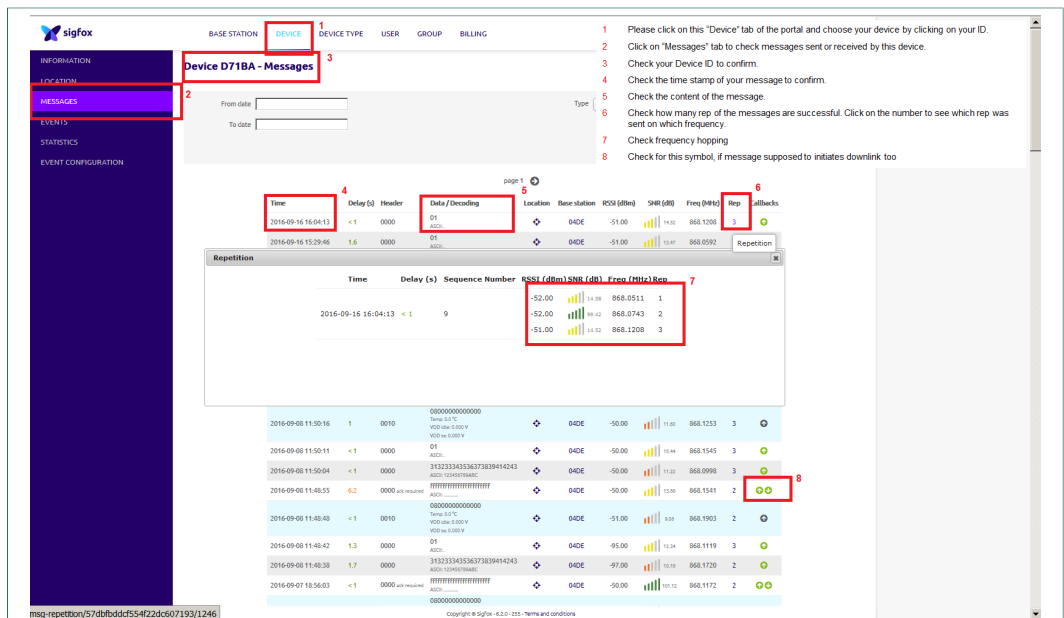

Figure 25. Checking successful SIGFOX message transmission on backend
7. Click on the **Messages** tab on the portal as shown in Figure 25.